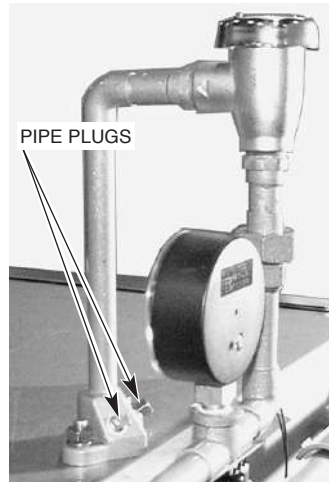
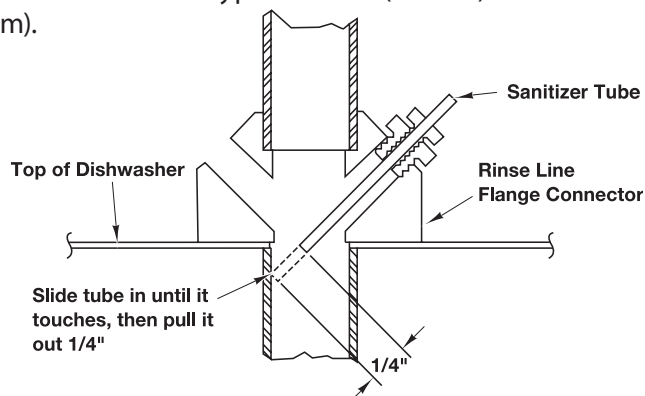

Fig. 20
Fig. 21
The rinse line flange connector on top of the dishwasher has two 1/8 inch NPT pipe plugs (Fig. 20).
- Remove the plug(s) (Fig. 20) for installation of the rinse aid dispenser tube and / or chemical sanitizer tube, as needed.
- Remove the pipe plug (Fig. 20) for installation of the chemical sanitizer tube. To assure an unobstructed flow of sanitizer, locate the sanitizer tube in the center of water flow by drilling the sanitizer tube fitting so that its inside diameter is equal to the outside diameter of the tube. Slide the tube into the flange until it touches the opposite side and then pull it back out 1/4 inch (Fig. 21).